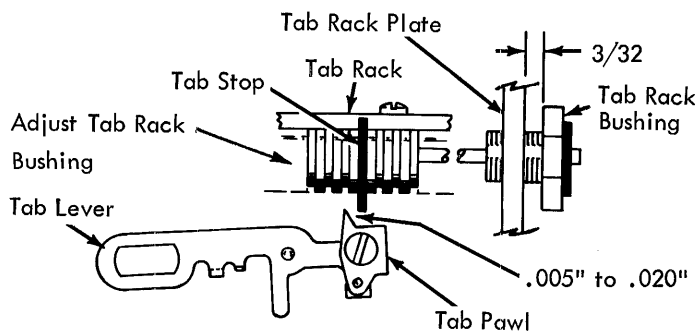

FIGURE 241. Tab Rack Bushing
3. Tab Rack - Adjust the tab rack left or right for a clearance of .005" to .020" between the tip of the tab lever pawl and a set tab stop with the tab lever latched out. This adjustment is made by the tab rack bushing on the RH end of the tab rack. The clearance may be observed by holding the carrier and latching the tab lever out (Fig. 241).